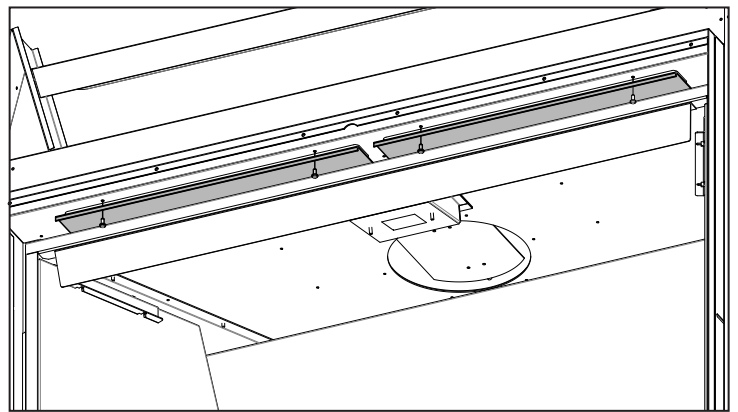

Figure 40: CSS Cover Plates
**Step 4.** Remove the two cover plates on the ceiling of the unit. These are secured by four (4) T-20 screws. See Figure 40.